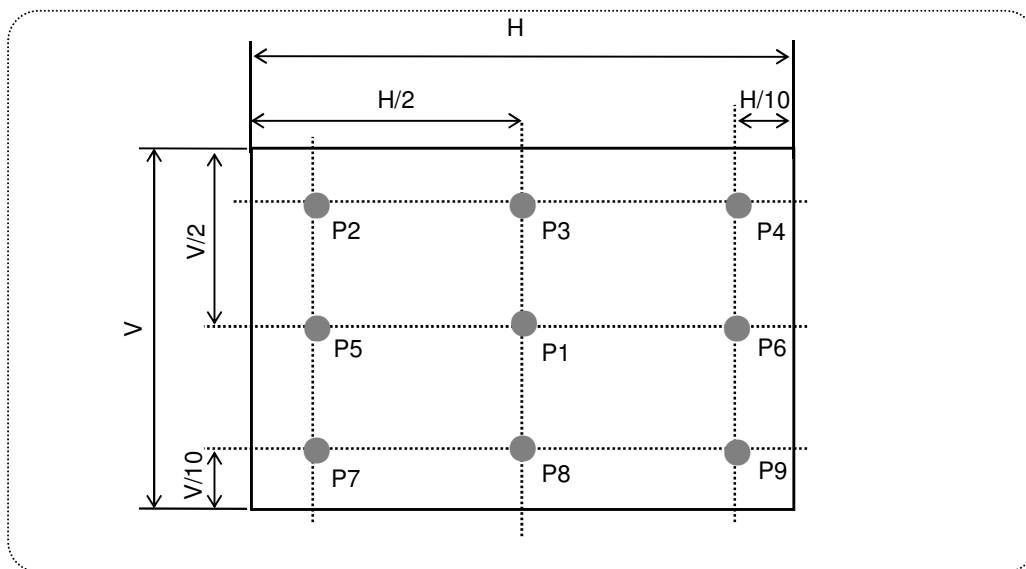

FIG.8 Measure Point for Luminance
2. **Surface luminance(L_{WH})** is the luminance value at Center 1 point(P1) across the LCD surface 50cm from the surface with all pixels displaying white. For more information see FIG.8 (By PR880)
For more information see FIG.8